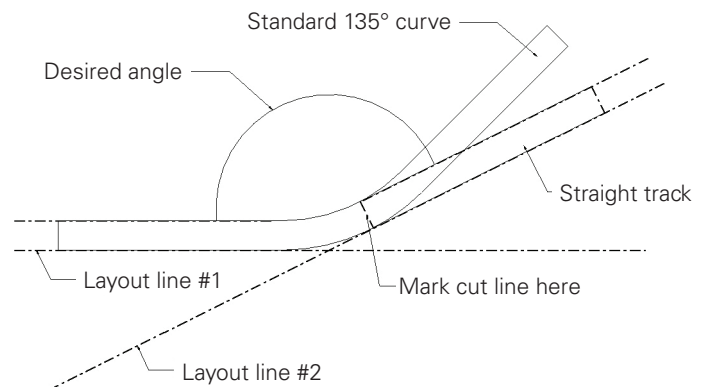

Figure 1: Cut curve to desired angle
- Refer to **Figure 1** to cut curve to desired angle.